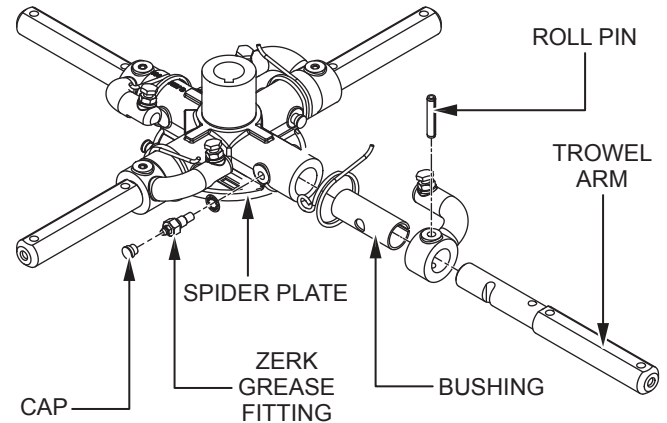

Figure 70. Trowel Arm Removal
1. Each trowel arm is held in place at the spider plate by a Zerk grease fitting (hex head bolt) and a roll pin. Remove the Zerk grease fitting and the roll pin from the spider plate (Figure 70).
2. Remove the trowel arm from the spider plate (Figure 70).
3. Carefully remove the trowel arm bushing (Figure 70).